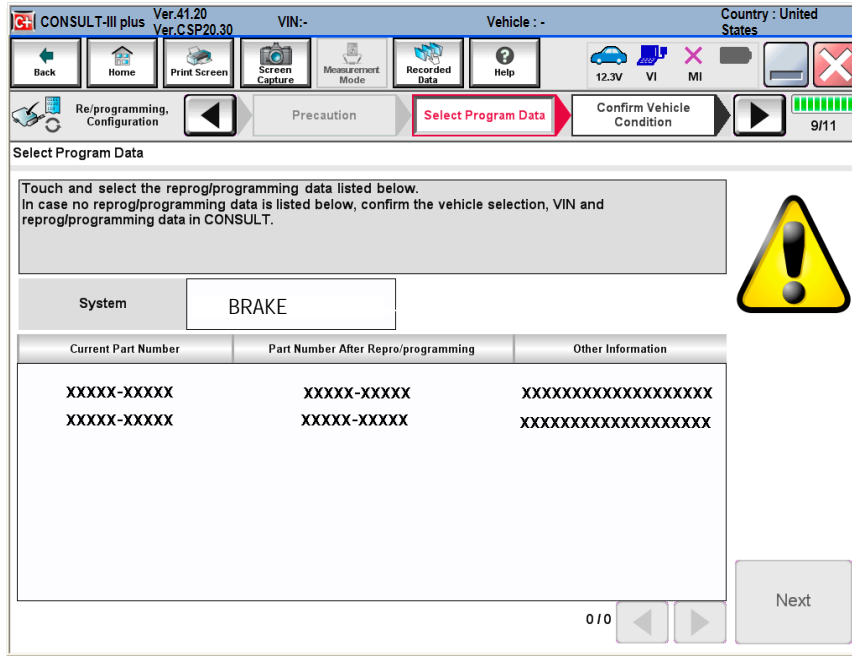

Figure 11
- If more than one P/N is available, the screen in Figure 11 will display. Select and use the reprogramming option that **does not** have the message “Caution! Use ONLY with NTBXX-XXX”.